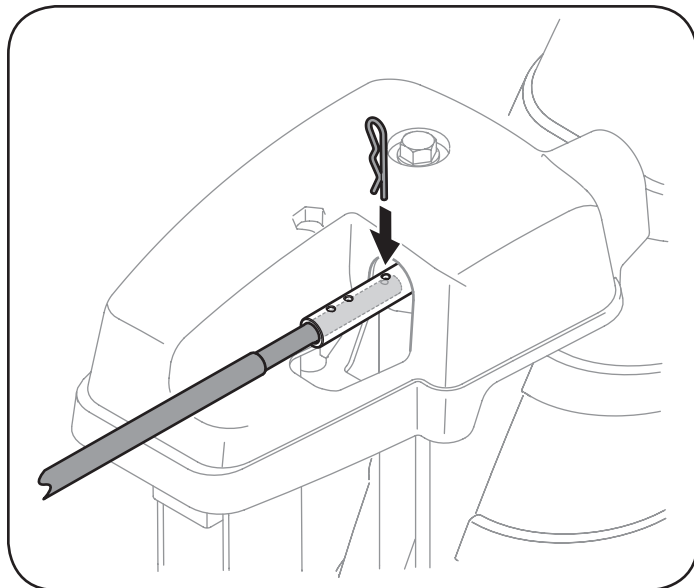

Figure 17
2. Push in the chute control rod until the hole in it lines up with the third hole in the chute control head. See Figure 17.
3. Reinsert the cotter pin through this hole and the chute control rod as shown in Figure 17.